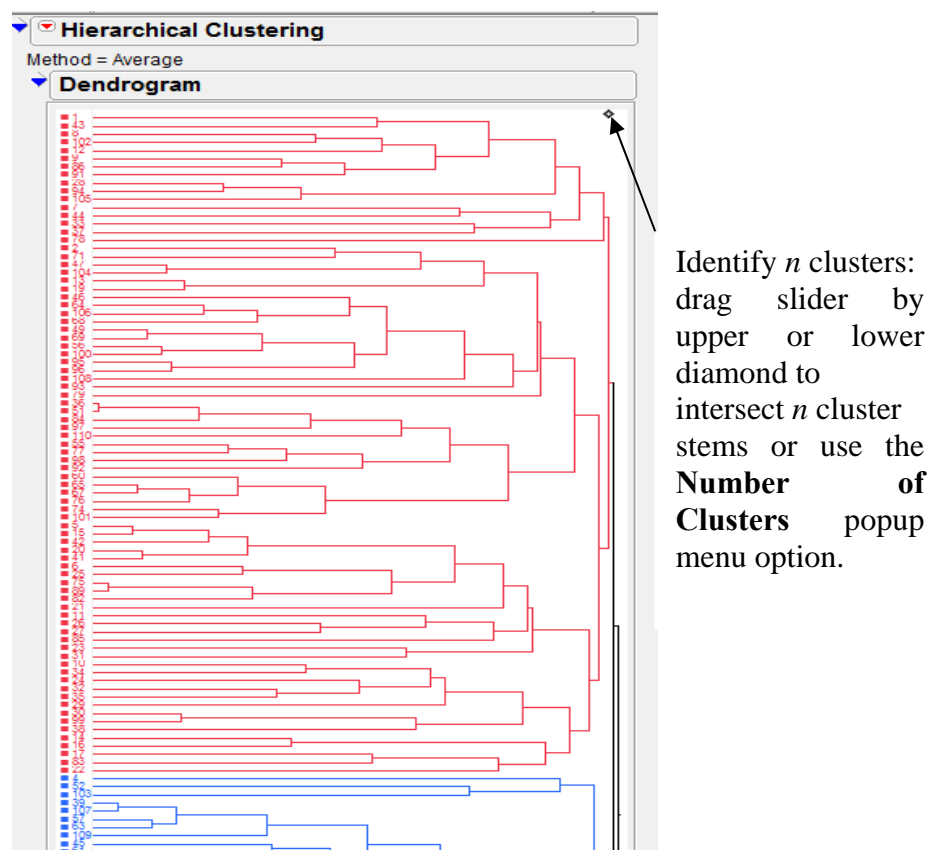

Figure 5.5.2: Dendrogram
4. Go to hotspot button on the left of **Hierarchical Clustering** → **Mark Clusters** and **Color Clusters**. To change the number of clusters to three, go to hotspot button and click **Number of Clusters** and give value as 3 or one can also change the number of clusters with the help of **diamond slider** in Dendrogram output. See Figure 5.5.2.